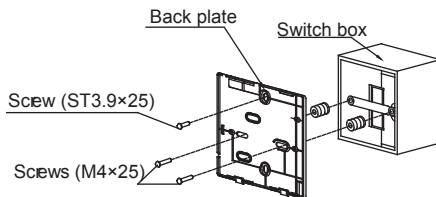

Fig 3-6
- For switch box mounting, fasten the back plate on the switch box with 2 screws (M4x25) and fasten it on the wall with 1 screw (ST3.9x25). (Fig.3-6)